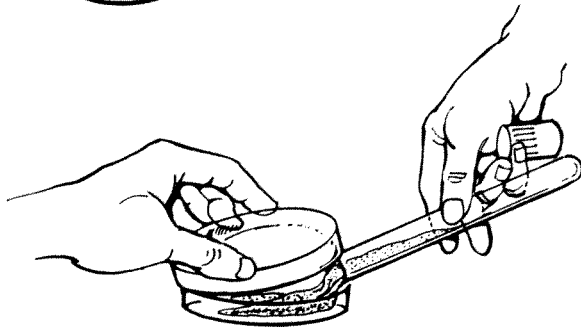

FIGURE 9-5
6. Simultaneously lift the lid of the sterile petri dish and pour in the melted medium, as in Figure 9-5.